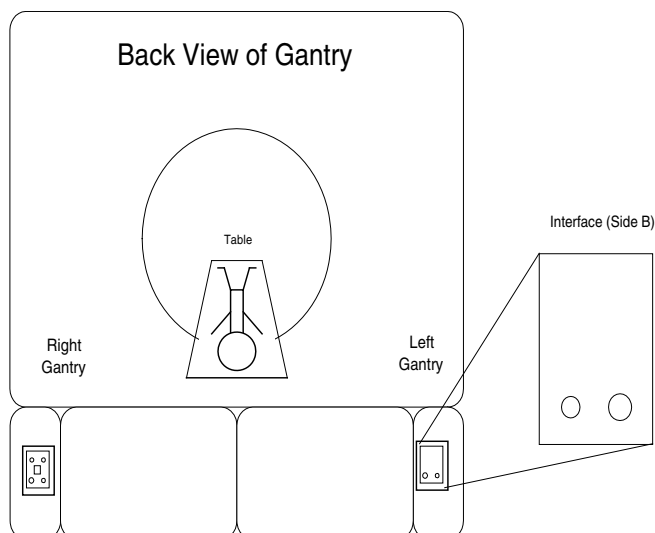

Figure 3-2 Gantry Connections
See Figure 3-2 for gantry's external connections.
- 5.) Refer to Figure 3-2, on page 34. Attach the SmartStep cable to the faceplate, as follows: